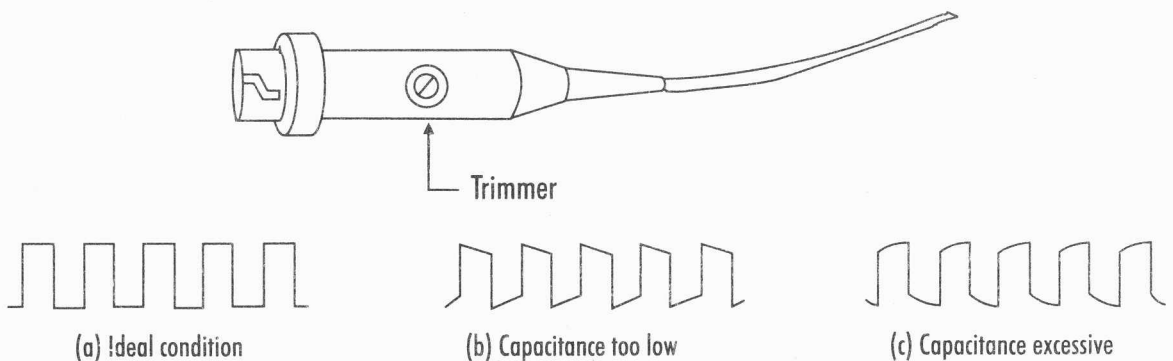

Fig. 1
- To avoid measurement errors, calibrate the probe as follows, and double check prior to taking measurements. Connect the probe tip to the CAL output connector 1kHz. If the compensation capacitance value is optimized, the waveform will look like that shown in Fig. 1 (a). If the waveforms are as shown in Fig. 1 (b) and (c), adjust the capacitance to the optimum value level using the variable capacitor(trimmer), in the probe housing.